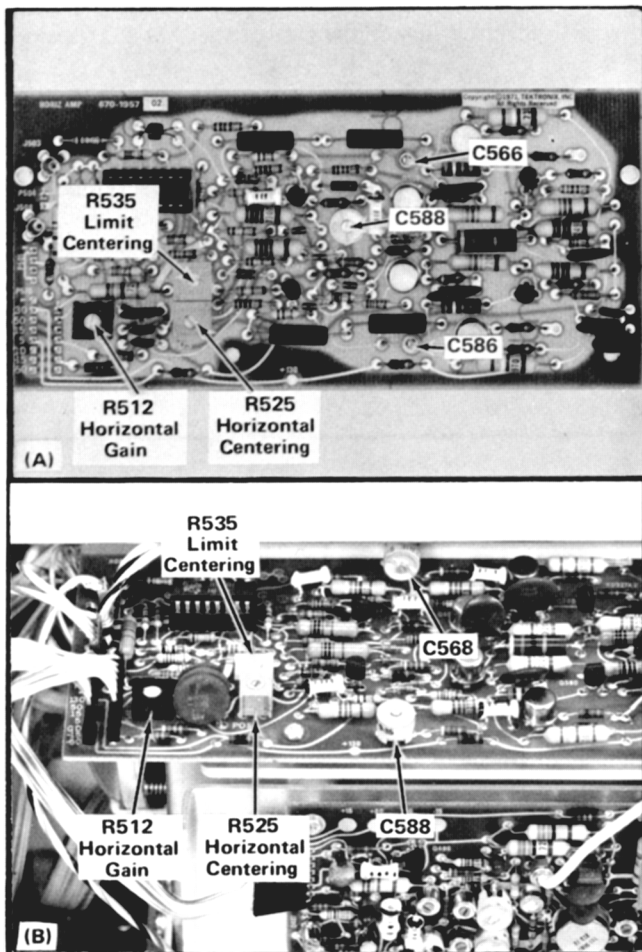

Fig. 2-6. Location of Horizontal adjustments (Horizontal Amplifier board (A) SNB020000-up; (B) Below SNB020000.
h. ADJUST—Limit Centering adjustment R535 (see Fig. 2-6) to match the DC levels of both waveforms.
c. ADJUST—Horizontal Centering adjustment R525 (see Fig. 2-6) to position the spot to the vertical center line.
f. ADJUST—Horizontal Gain adjustment R512 (see Fig. 2-6) for exactly eight divisions of deflection between the second and eighth traces.